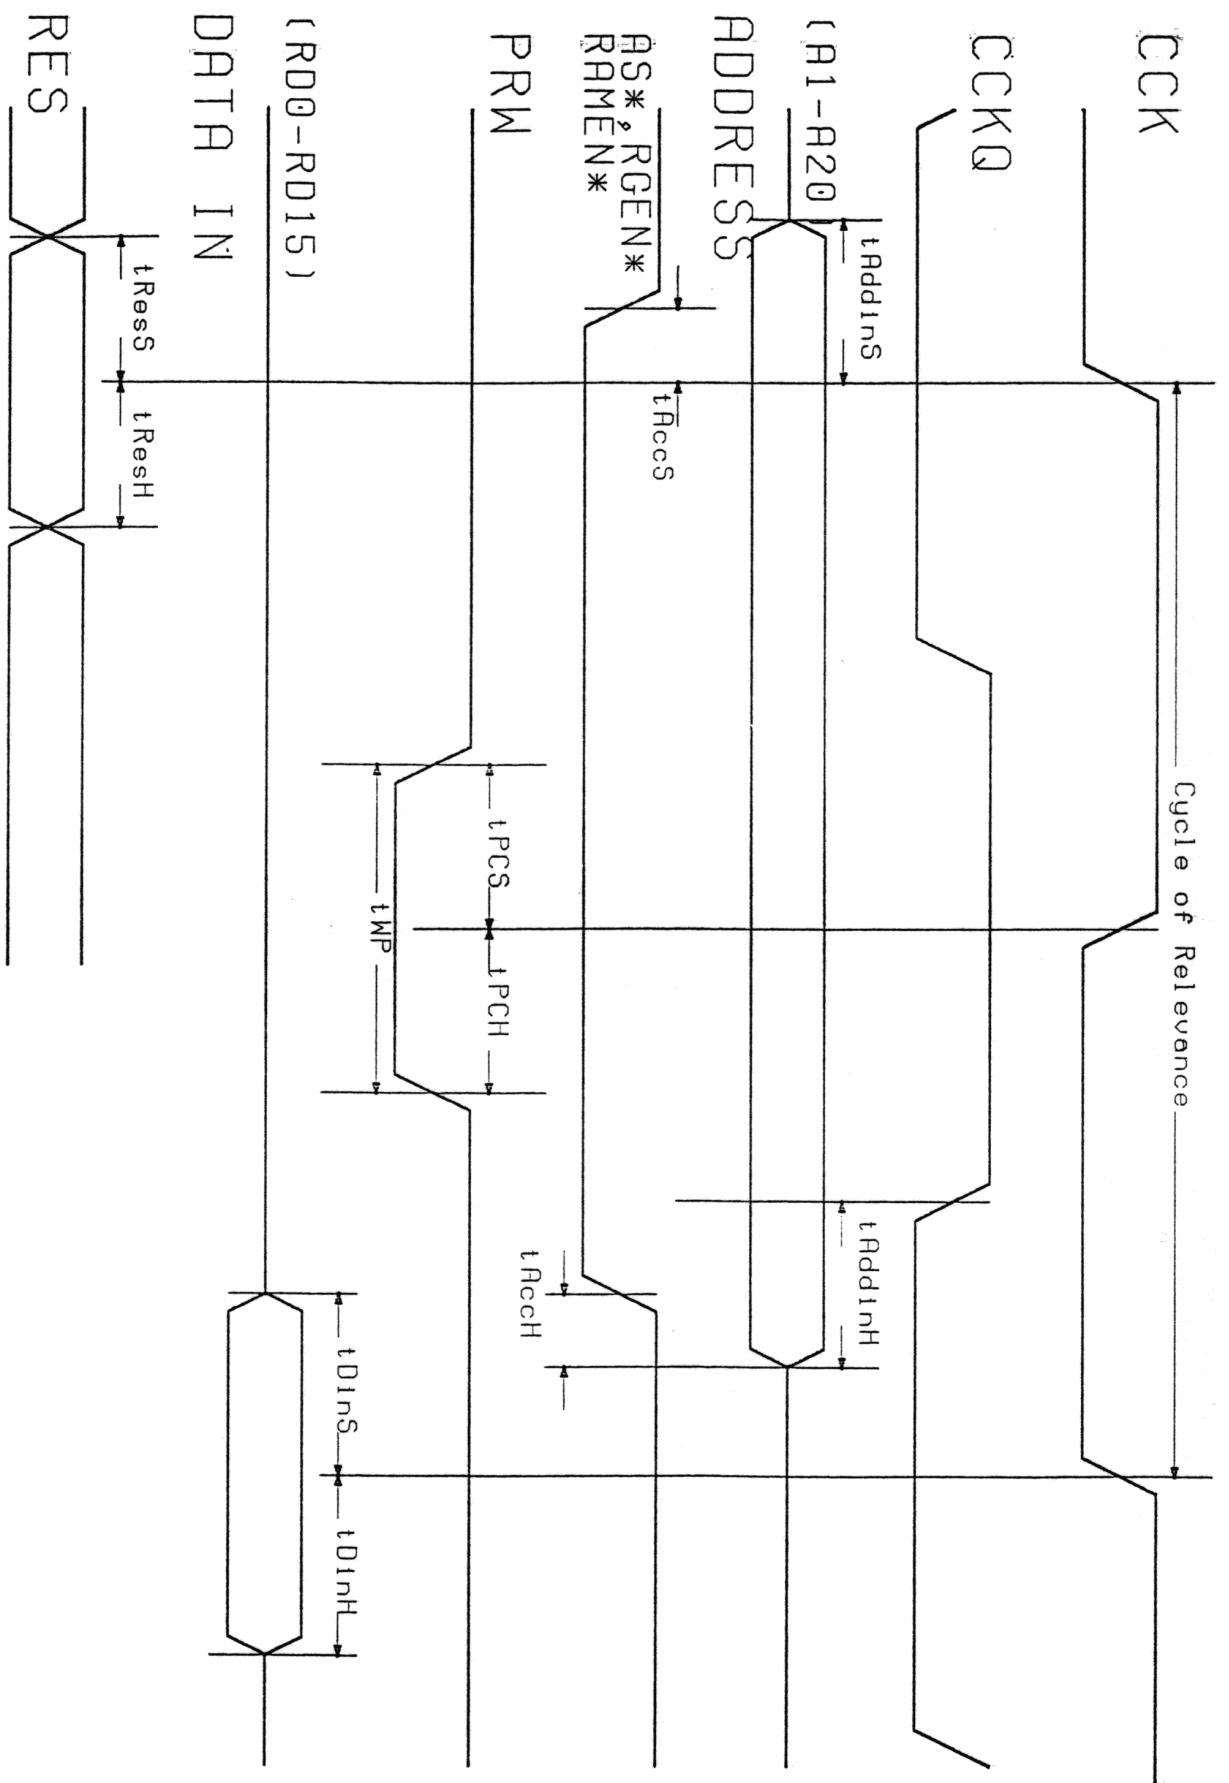

Fig. 4 PROCESSOR ACCESS
The procedure for moving and combining bit mapped images in memory received the name Bit Blit from the computer instruction that did block transfer of data on bit boundaries. The routines became known as Bit Blitters or Blitters. The Blitter DMA controller is preloaded with the address and size of 3 source images (A,B, and C) and one (1) destination (D) in the dynamic RAM (Refer to Figure 4). These images can be as small as a single character or a large as twice the screen size. They can be full images or smaller windows of a larger image. After one word of each source image is sequentially loaded into the source buffer (A,B,C) they are shifted and then combined together in the logic unit to perform image movement overlay, masking, and replacements. The result is captured in the destination buffer (D) and sent back to the RAM memory destination address.